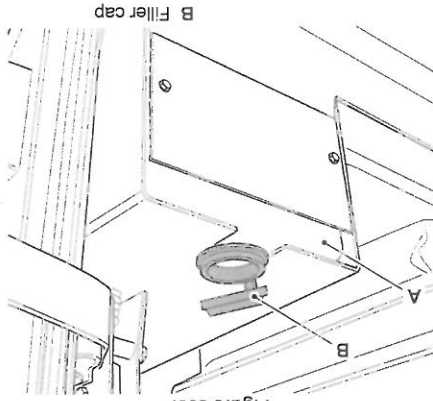

Figure 359.
3. Remove the washer bottle filler cap. Refer to Figure 359.
2. Get access to the washer bottle to the left of the operator seat. Refer to Figure 359.